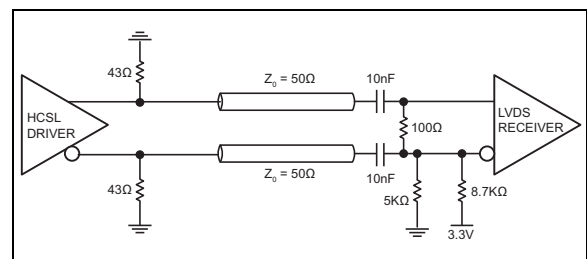

FIGURE 8: HCSL-to-LVDS Translation.
In Figure 8, each of HCSL output pins switches between 0 and 14 mA. When one output pin is low (0), the other is high (driving 14 mA). The equivalent loading for HCSL driver is 48Ω parallel to 50Ω, which equates 23.11Ω. The swing level on the LVDS input is $14 \text{ mA} \times 23.11\Omega = 323 \text{ mV}$. A 10 nF AC-coupled capacitor should be placed in front of the LVDS receiver to block DC level coming from the HCSL driver. After the AC-coupled capacitor is placed, re-biasing is required for the LVDS input and can be done by placing 8.7 kΩ resistor to 3.3V and 5 kΩ resistor to GND to achieve 1.2V DC level for the input common-mode of LVDS Receiver. If the LVDS receiver already has integrated a 100Ω resistor across the differential input pins, the external 100Ω resistor is not required.